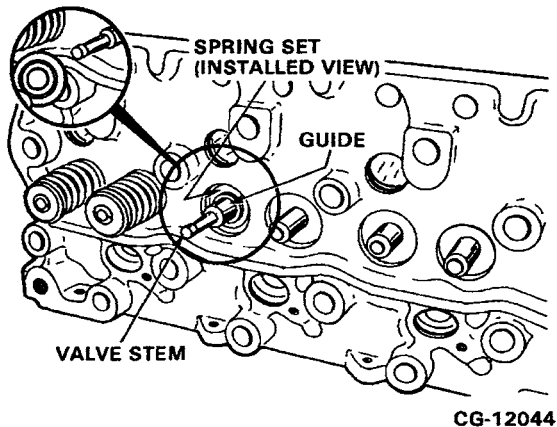

Figure 4.32. Remove the Valve Spring Seat and Valve
6. Remove the valve spring seat off the valve guide, then remove the valve. Refer to Figure 4.32.